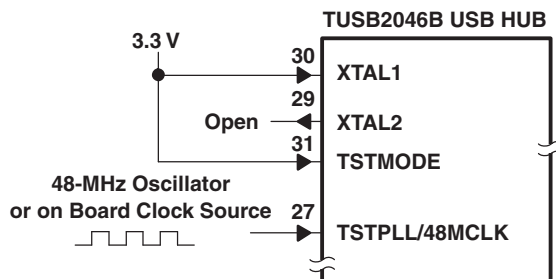

Figure 8. 48-MHz Input Clock Configuration
- A 48-MHz input clock configuration is shown in Figure 8. In this mode, both TSTMODE and XTAL1 terminals must be tied to 3.3-V  $V_{CC}$ . The hub accepts the 48-MHz clock input on TSTPLL/48MCLK (terminal 27). XTAL2 must be left floating (open) for this configuration. Only the oscillator or the onboard clock source is accepted for this mode. A crystal can not be used for this mode, since the chip's internal oscillator cell only supports the fundamental frequency.